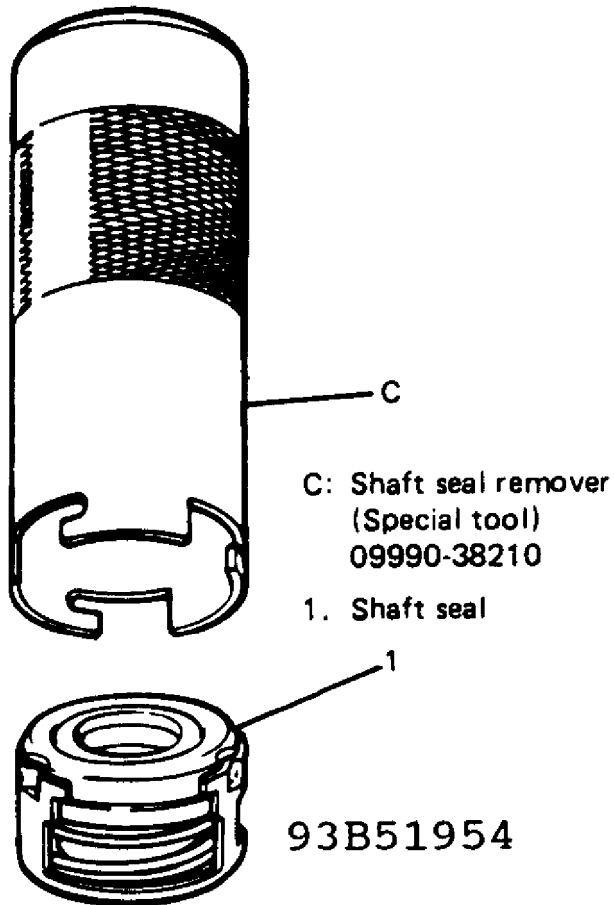

Fig. 30: Using Shaft Seal Remover
- a. Lubricate shaft seal with compressor oil and fit it to shaft seal remover using Special tool. See Fig. 30.